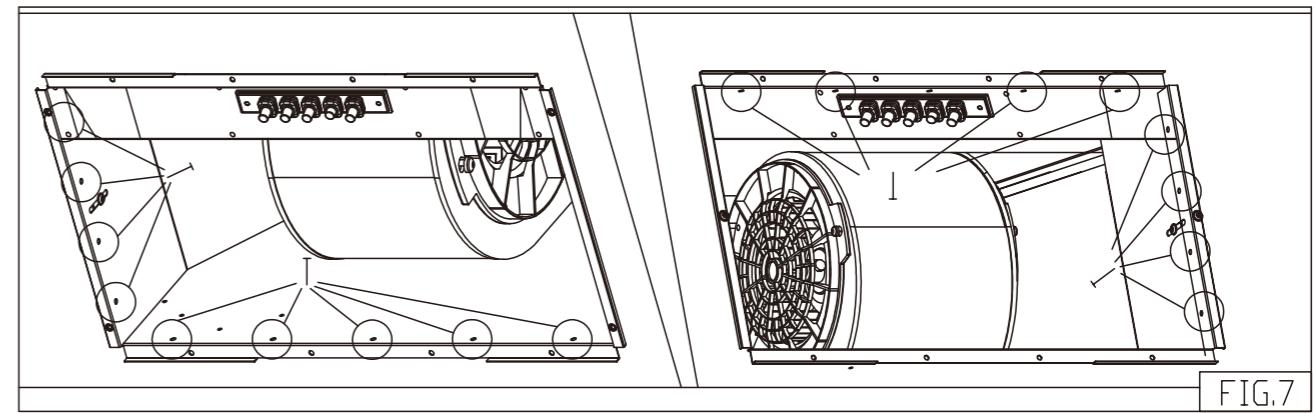

FIG.7
- F. Take the balance screws M5x20L (17 pcs) out , crew in at the holes on the inside of hood with cabinet. (Fig. 7)